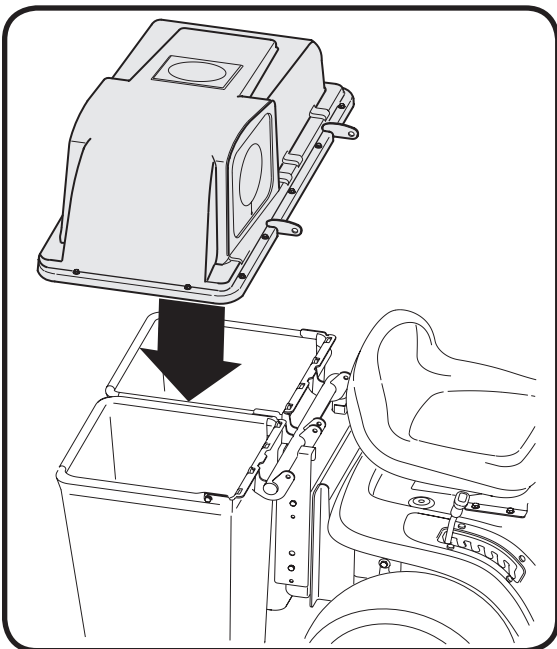

Figure 19
4. Place the grass bag cover on top of the grass bags and align the holes on the hinges of the grass bag cover with the corresponding holes on the support tube assembly. See Figure 19.